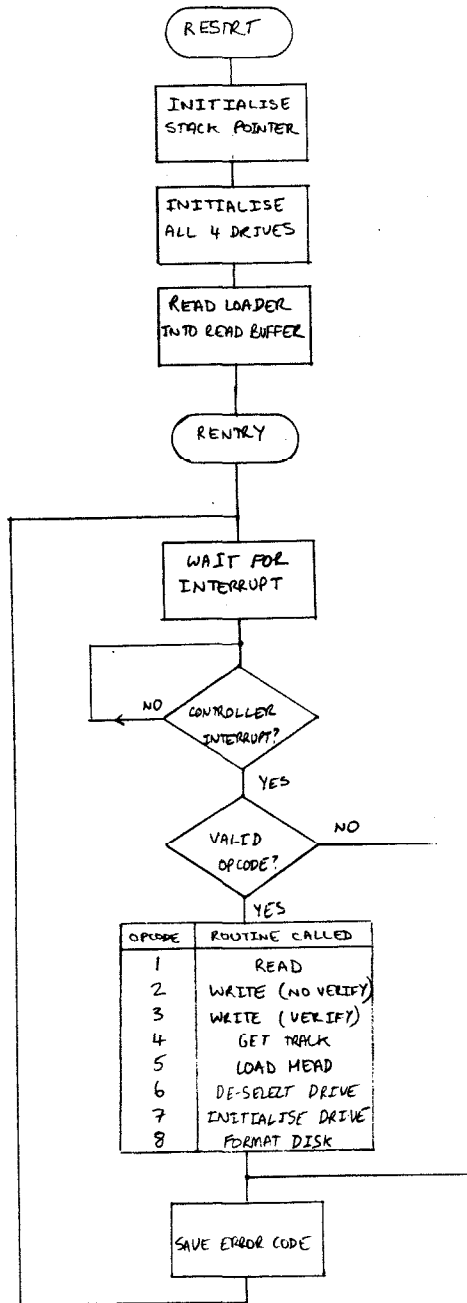

Figure 3.1 Flowchart for RESTRT and RENTRY
All the major routines held in the 2708 program memory on the disk controller are shown in outline flow chart form in figures 3.1. to 3.9. In addition there are a number of minor routines associated with control of the interface or the drive which are adequately described by the comments in the program listing in appendix C.
3.2 Restrt and Rentry routines (figure 3.1)